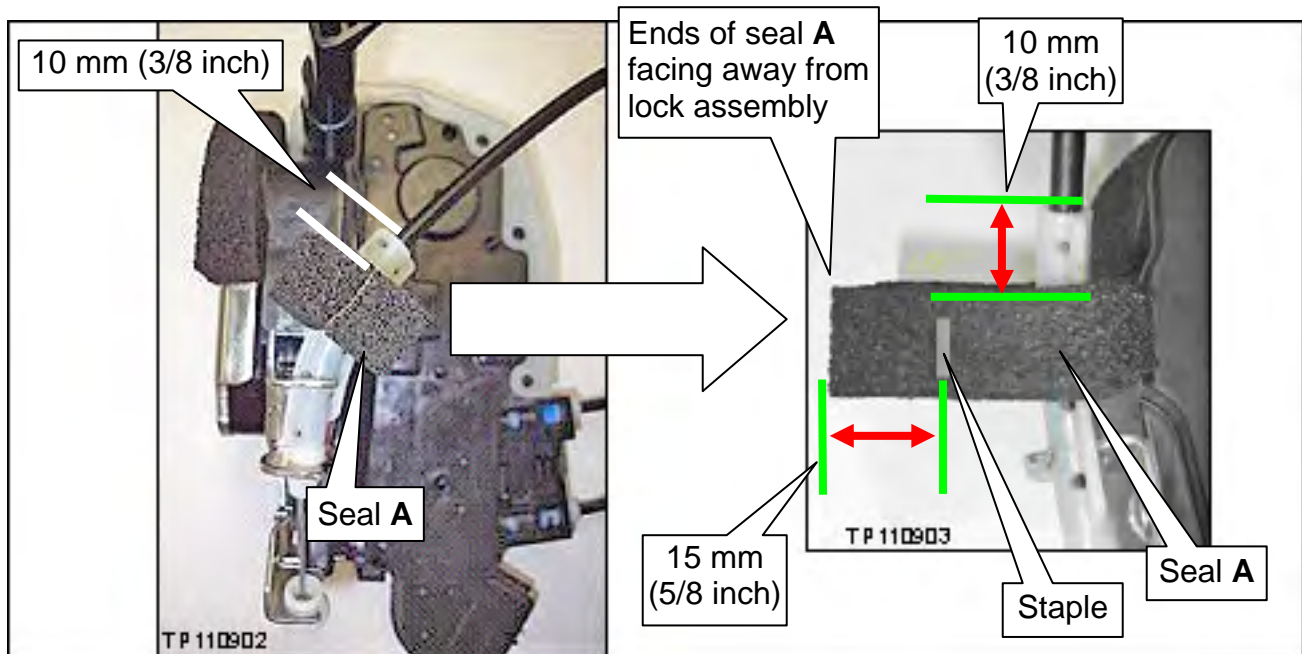

Figure 11
**NOTE:** Before beginning, it is recommended that you read all of seal **A**'s installation steps (1a through 1f) and examine Figure 11.